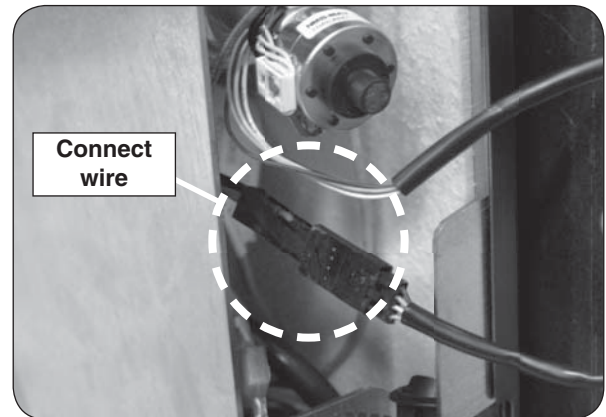

Fig. 3-2 Connect wire
5. Connect the wire coming from the pressure regulator to the exposed wire coming out of the control box (see Fig. 3-2).